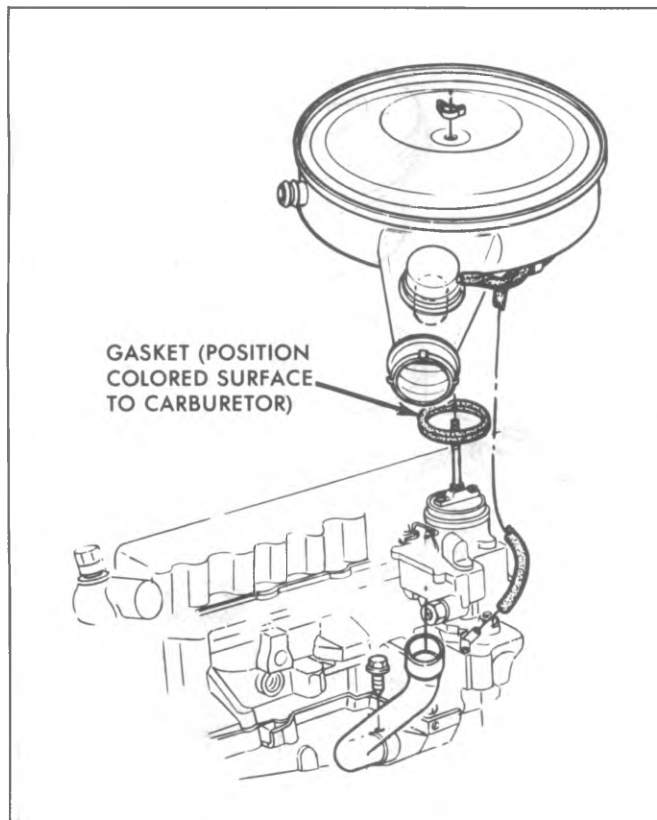

Fig. 6E-30--Air Cleaner-L6
Refer to figure 6E-34 for air cleaner used on P20(42), P30(42) and P30(32) truck with 350 V8 engine and 4MV carburetor.
Refer to figure 6E-35 for air cleaner used on 350 V8 diesel engine.